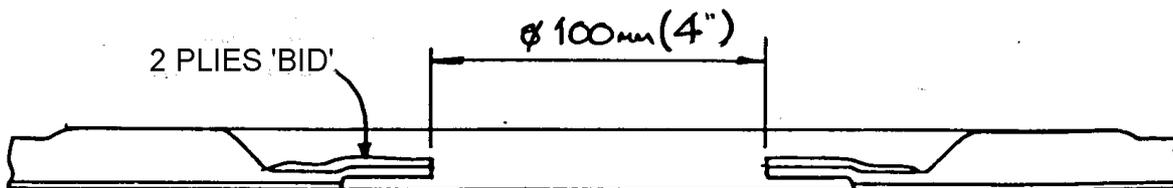

Fig 7. Reinforcement and trimming
7. After cure, remove the panel and trim the flange around the hole to about 12 - 13 mm (½") in width - (figure 7).